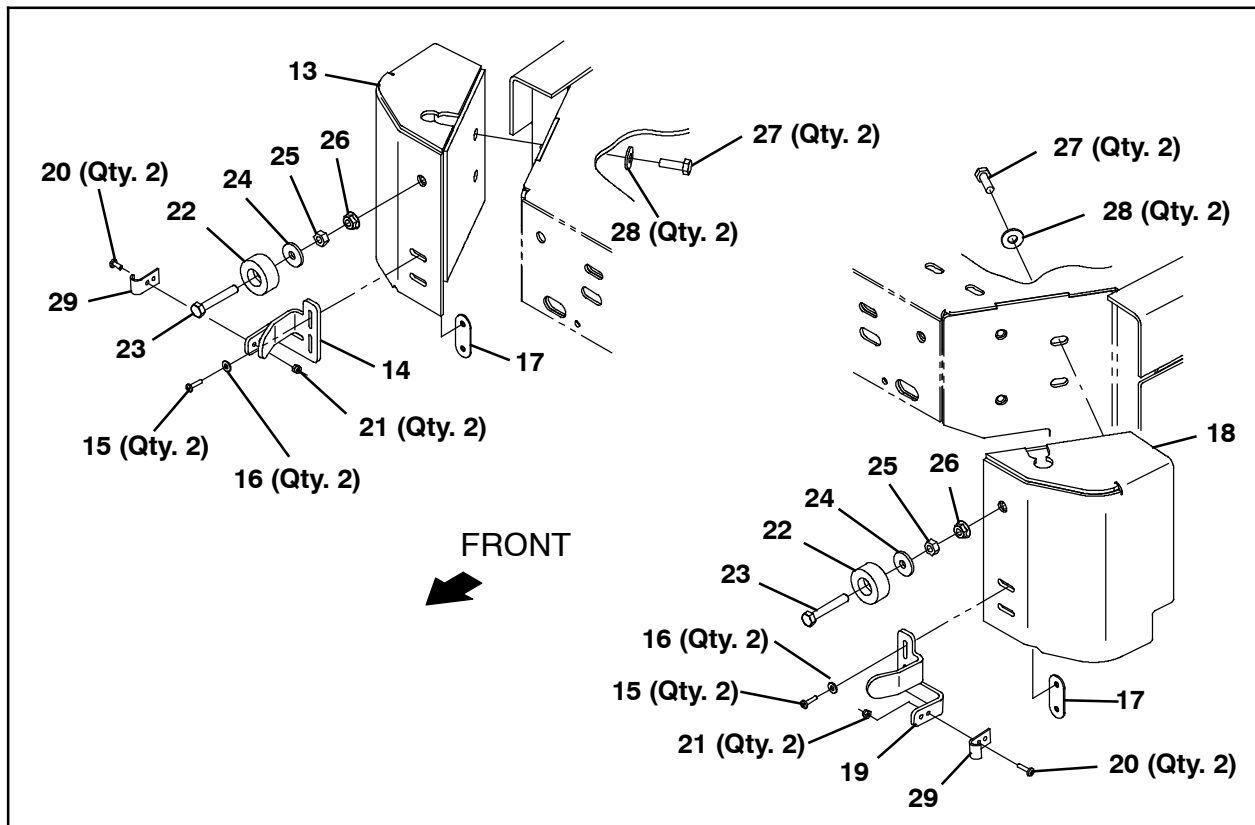

FIG. 11
25. Slide a rubber bumper (22) and flat washer (24) onto each M8 hex screw (23) and use a M8 hex nut (25) to secure the rubber bumper and flat washer onto the hex screw. (Fig. 11)
26. Thread an M8 flange nut (26) onto each M8 hex screw (23). (Fig. 11)
27. Install the bumper assemblies assembled in the previous several steps onto the right corner bracket (13) and the left corner bracket (18). (Fig. 11)
28. Use two M4 pan screws (20) and two M4 hex lock nuts (21) to install a latch keeper (29) onto the right latch bracket (14) and the left latch bracket (19). (Fig. 11)
29. Use two M4 pan screws (15), two flat washers (16) and one M4 nut plate (17) to install the right latch bracket (14) onto the right corner bracket (13). (Fig. 11)
30. Use two M4 pan screws (15), two flat washers (16) and one M4 nut plate (17) to install the left latch bracket (19) onto the left corner bracket (18). (Fig. 11)
31. Use two M8 hex screws (27) and two flat washers (28) to install the right corner bracket (13) and the left corner bracket (18) onto the machine. (Fig. 11)